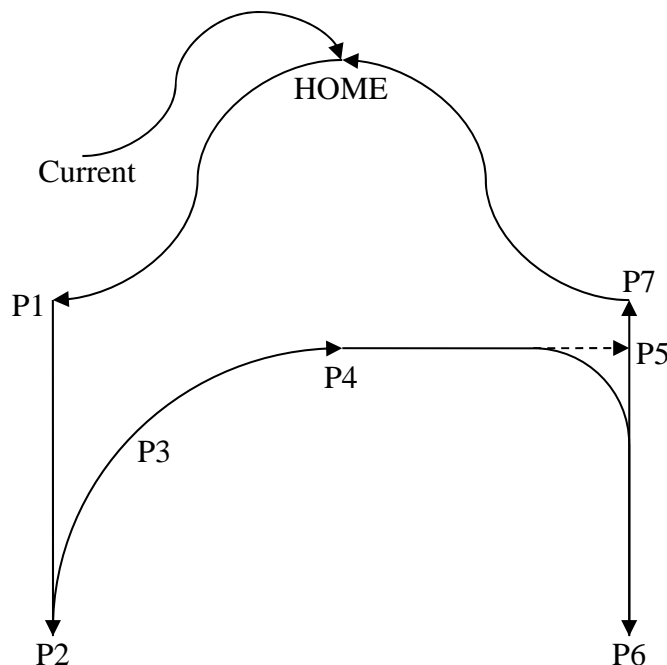

Figure 4[c]
- [c] Develop a program for Kuka robot to pick and place an object following the path as shown in Figure 4[c] with velocity 0.8 m/s using base[4] and tool[5]. The tool center point starts from current position and ends at the HOME position. Open the gripper at point P1. Pick the object at point P2 and place the object at point P6. Output 17 and 18 are used for opening and closing the gripper respectively.